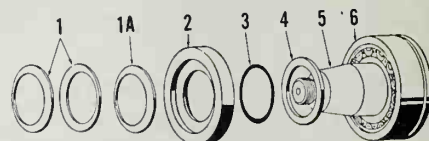

Fig. F2-15—Exploded view of thrust ring components. Belleville washer (1A) is only used on Model 95A437.
Reverse removal procedure for installation. Tighten main bearing support retaining nuts to 30 N·m. Note assembly of thrust ring components at flywheel end as shown in Fig. F2-15. Outer circumference of thrust ring should be smooth as it contacts crankcase oil seal. Install Belleville washers (1) so concave sides face each other. Belleville washer (1A) is only used on Model 95A437 and must be installed with concave face towards thrust ring (2).